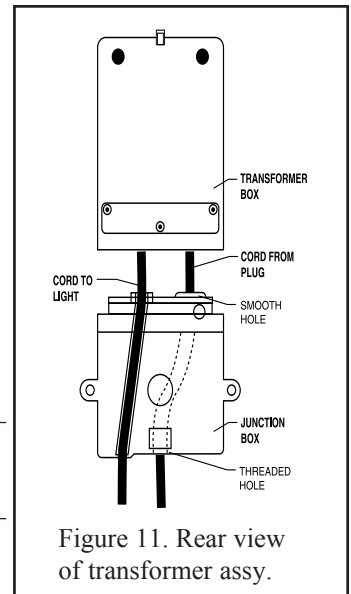

Figure 11. Rear view of transformer assy.
10. Insert the cord from the plug through the smooth hole and then insert the cord through the threaded hole. Slide the cord from the light assembly into the angled slot on the junction box bottom. Make sure the cord by the transformer box starts by the deep end of the angled slot; see Figure 11.